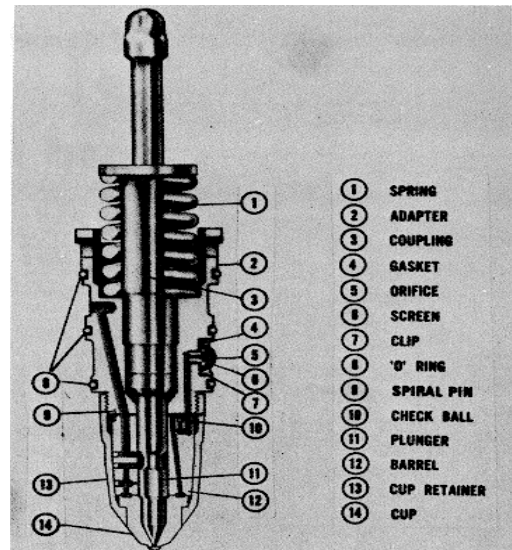

Fig. 6-1-5, FWC27. Cylindrical PT (D) injector cross-section
The PT (type D) Injector is a refinement of the PT (type B and C) cylindrical injectors used in Cummins engines with internal fuel drillings. The PT (type D) top stop injector is shown in Fig. 6-1-5.
By parts design changes, the PT (type D) provides more parts interchangeability and those areas subject to wear are localized in smaller parts for easier servicing. Former injectors have a body with the moving part or plunger running the full length, the PT (type D) has a short barrel and plunger to provide the same function. The shorter barrel plunger bore made possible use of materials with greater wear resistance and results in smaller replacement assembly. The barrel/plunger assembly is made up of a coupling (3, Fig. 6-1-5), plunger (11) and barrel (12); the coupling and plunger are swaged assembly.
The "Top-Stop" injector functions like the standard PT (type D) injector except the upward travel of the injector plunger is limited by an adjustable stop. The stop is set before the injector is installed in the engine. Fig. 6-1-5.
In Fig. 6-1-5, the adapter (2) houses the plunger return spring (1), adjustable orifice (5), orifice gasket (4), fuel screen (6) and screen retainer (7) and carries the "O" ring seals (8) on the outside which seal against the head to form fuel inlet and drain passages. Fuel enters through orifice (5) and flows to barrel (12), pass check ball (10) to the cup-to-barrel passage up to the metering orifice where it is metered into the cup (14). Fuel not used circulates past the metering orifice, around the plunger and out the drain passage while the plunger is seated in the cup. The cup, adapter and barrel are held in assembled position by the cup retainer (13).
The top stop injector parts are the same as the standard PT (type D) except the adapter (2, Fig. 6-1-5) is longer to accommodate the stop. The plunger coupling top is smaller, allowing it to pass through the stop. The injector spring washer (15), adjustable stop screw (16) and stop screw locknut (17) are parts required only for top stop injectors.